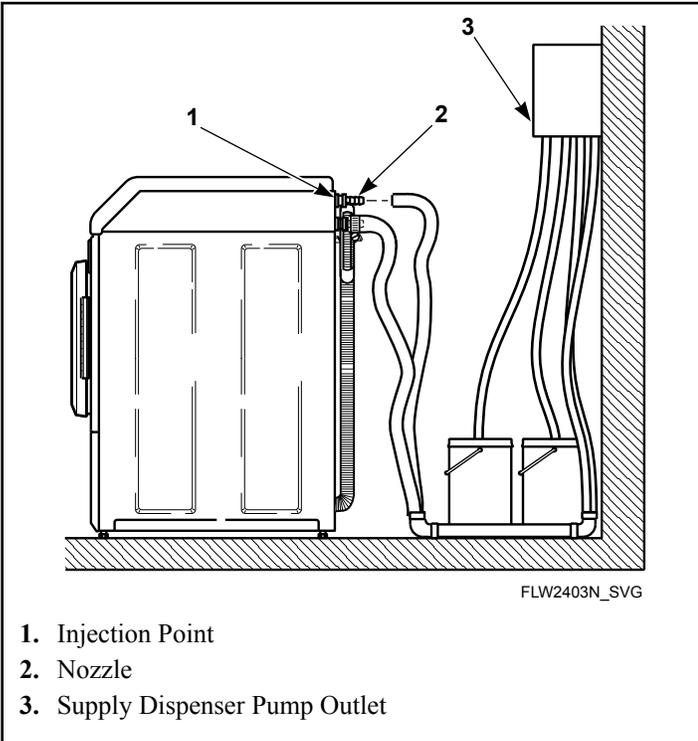

Figure 15
- Attach nozzles to rear of machine. Connection point located on cabinet, above water mixing valve. Refer to *Figure 15*.
- Connect supply hoses to nozzles and secure with hose clamps (obtain locally). Refer to *Figure 15*.